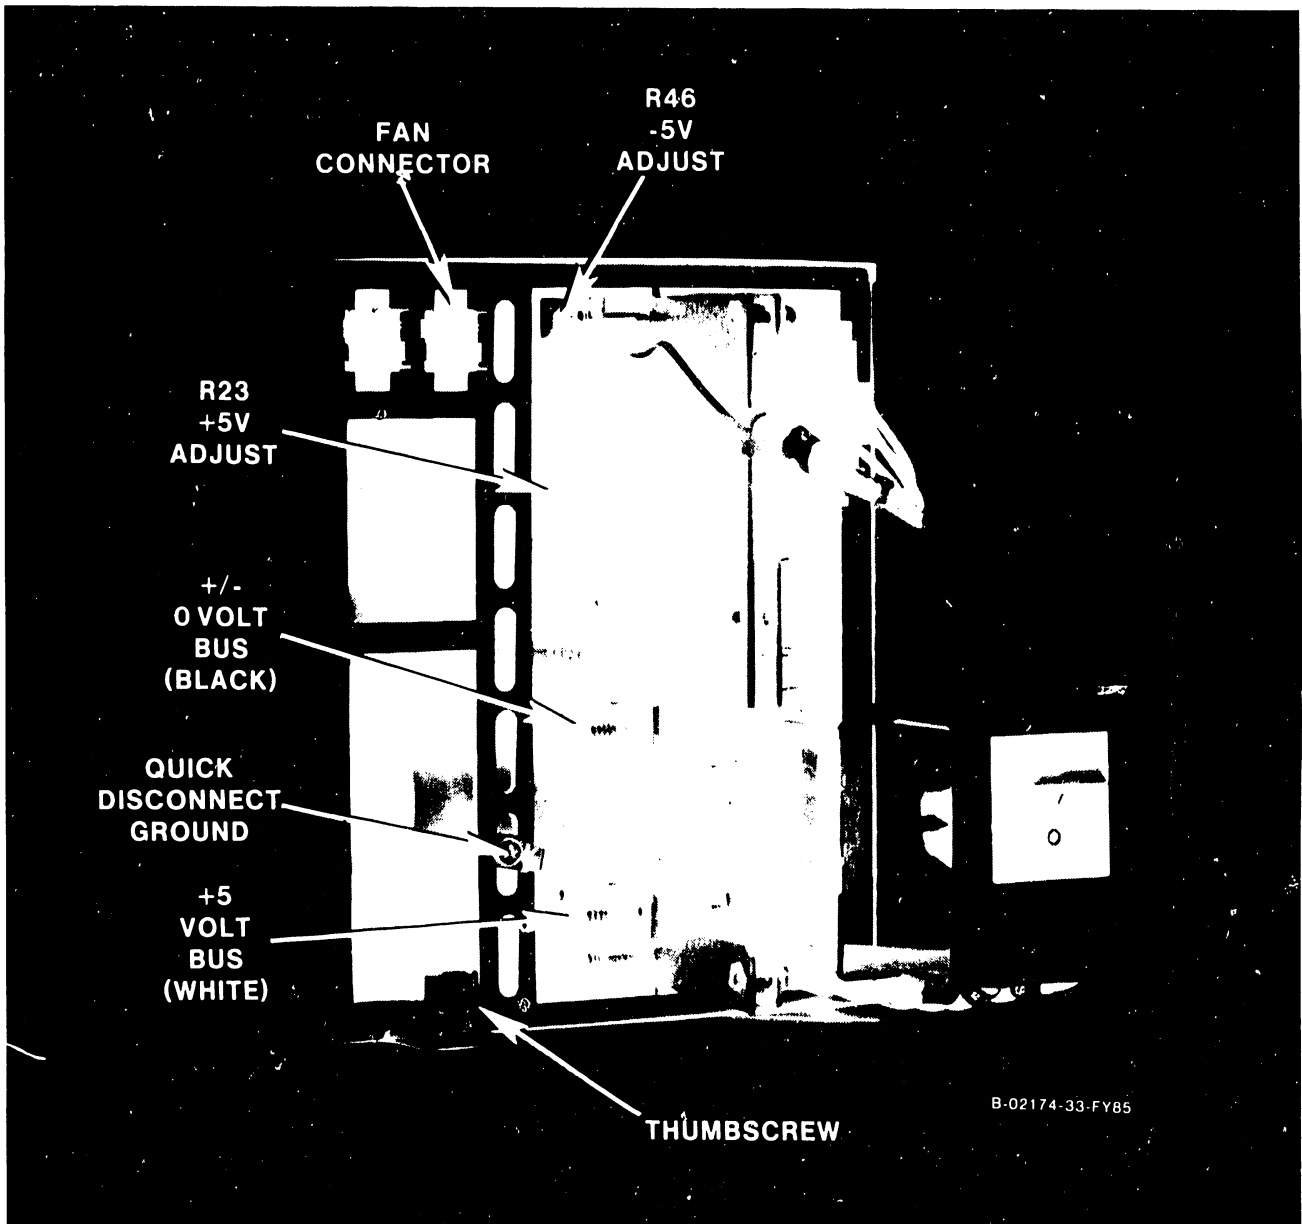

Figure 5-33. Switching Power Supply (Left Side View)
Perform the following procedures when removing the 279-0608 Switching Power Supply (refer to figures 5-33, 5-34, and 5-35):
6. With a nonmetallic adjustment tool, adjust the voltage(s) to within the operating limits. (See figures 5-33 and 5-35 for the locations of the adjustment trim pots.)